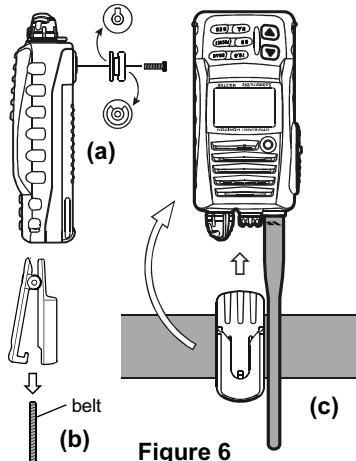

Figure 6
1. Connect the hanger to the rear of the **HX370E**, with the notch pointing directly up, using the supplied screw (Figure 6-a).
2. Clip the Quick Draw Belt Clip to your belt (Figure 6-b).
4. To remove the **HX370E** from the Quick Draw Belt Clip, Rotate the **HX370E** 180 degrees, then slide the transceiver out from the Quick Draw Belt Clip (Figure 6-c).